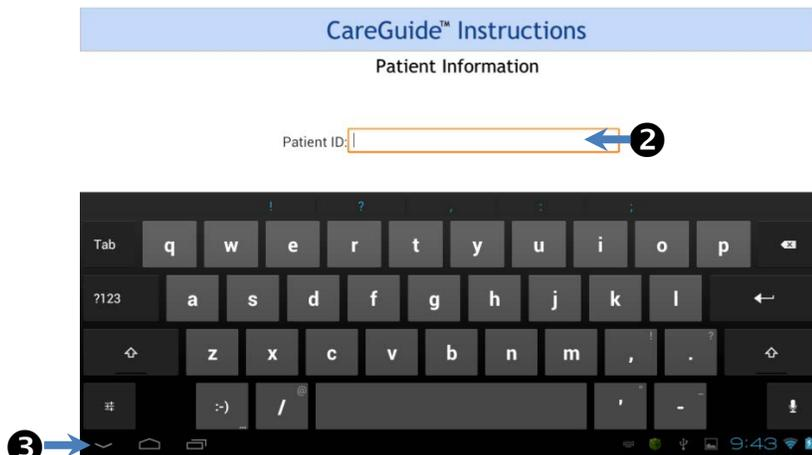

Figure 5. Patient ID Screen
- 2 If needed, click the Patient ID box to bring up the on-screen keyboard (Figure 5 ②).
- 3 Enter the patient ID (up to 50 characters), then hide the keyboard (Figure 5 ③).